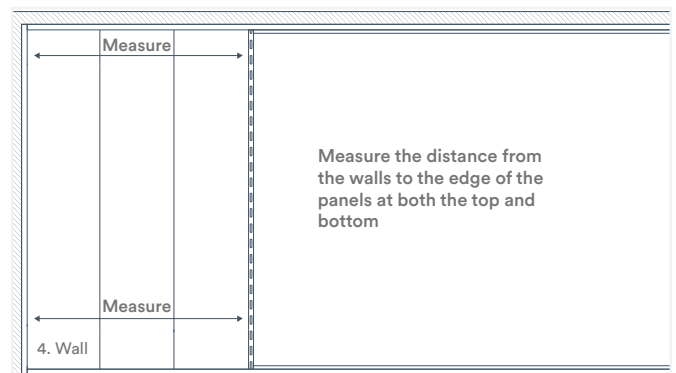

Fig. 12
7. Check your installation periodically to ensure the panels continue to be installed in straight, even rows. To do this, measure the distance from the wall to the edge of your panels at both the top and bottom of the panel (Fig. 12). If both measurements are identical, the installation is adequately aligned. If the measurements are uneven, you will need to correct the positioning of your board.